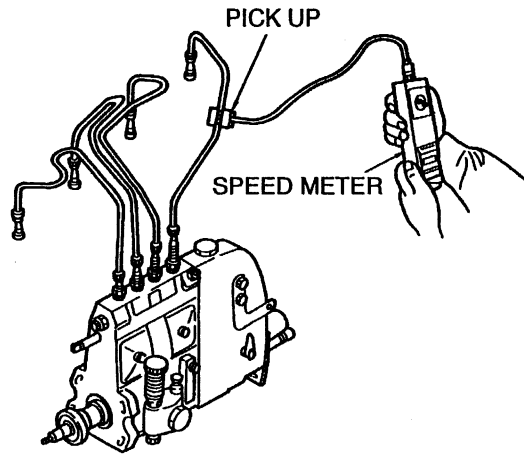

Fig. 1 Measurement of E/G speed
1) Install diesel engine speed meter pickup on and of injection pipes on which the pickup can be easily installed. (See Fig. 1.)